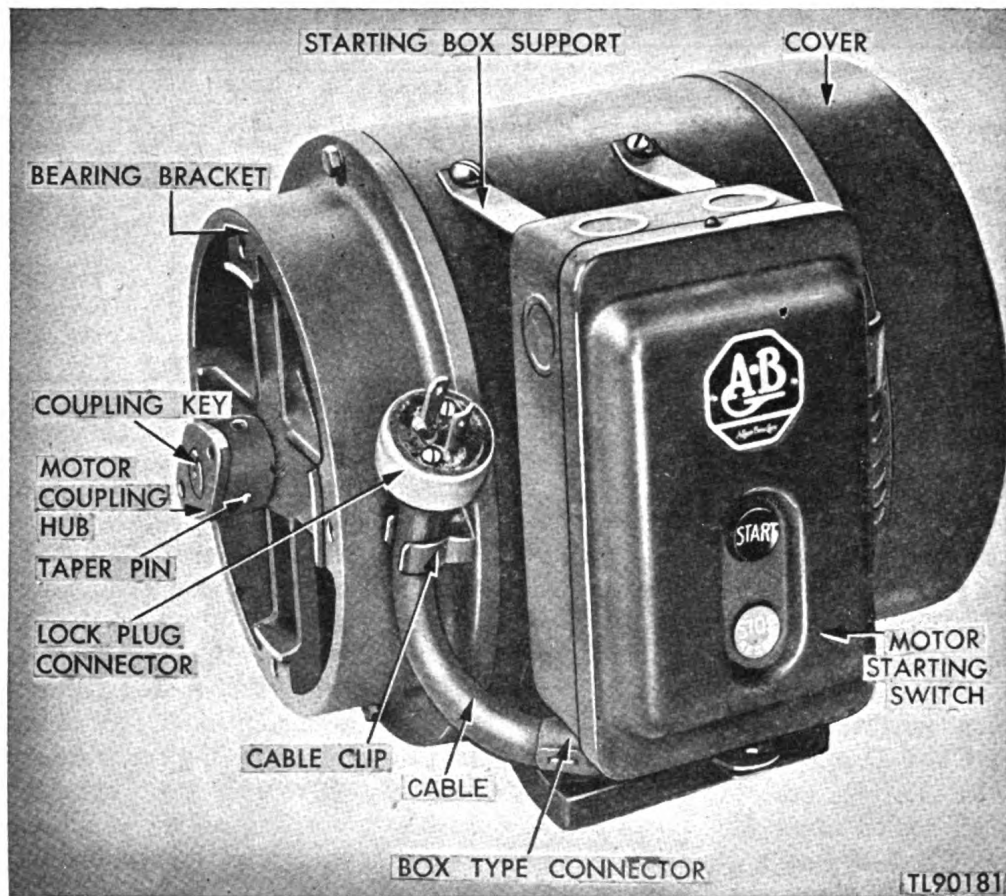

Figure 7. Motor MO-37-A and starter-switch box.
a. Motor MO-37-A (figs. 7 and 8) is the driving unit of Motor Generator MG-37-A. It is a 220-volt, a-c, single-phase, 50-cycle, repulsion-induction unit. The motor is drip-proof and has high torque and quick-starting characteristics. Mounting flanges on the motor bearing-bracket are bolted to the union ring on the generator-bearing bracket with a rabbet fit. Two U bolts hold the motor rigidly to the skid base. The motor shaft is connected directly to and drives the generator shaft through a flexible coupling. A manually operated, push-button type, motor-starting switch (fig. 7) is mounted on the motor frame. A thermal over-load relay is provided for motor protection.